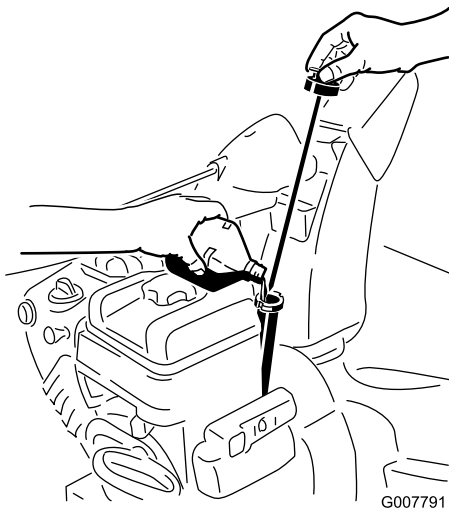

Figure 19
1. Remove the dipstick and **slowly** pour oil into the oil fill tube to raise the oil level to the Full mark on the dipstick. **Do not overfill.**(Figure 19).